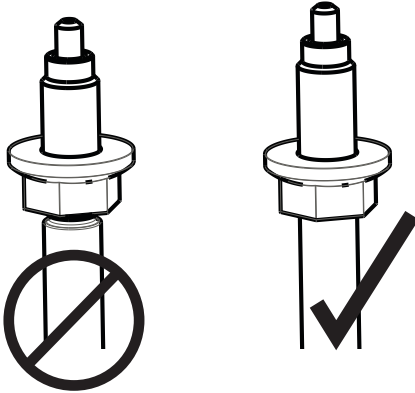

Fig. 15: Cinch nut seated on shaft shoulder.
12. Thread the cinch nut onto the shaft (Fig. 14A) in the orientation shown until it is finger-tight. Confirm the nut is seated on the shoulder of the shaft (Fig. 15).